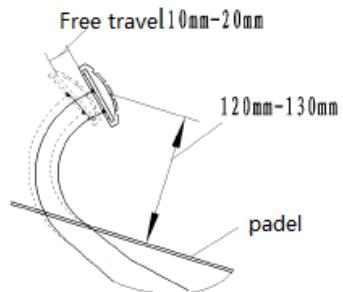

Figure15
- (1) Shorten the putter
- (2) Adjust pedal limit bolt .Shown as figure 15,adjust the pedal height
- (3)Adjust the push rod until the front end of the push rod contacts the master cylinder piston. and then retract 1-2 turns to ensure that the free travel of the pedal is between 0.4"-0.8".
- (4) Lock the push rod nut and the pedal limit bolt nut